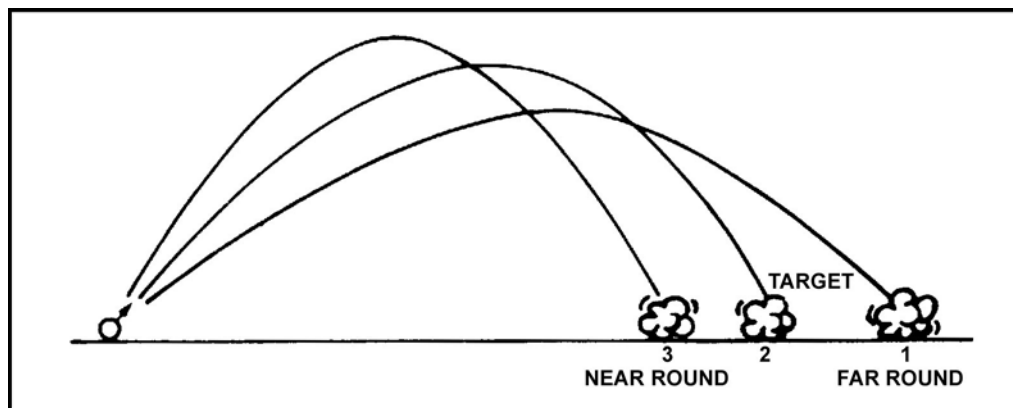

Figure 3. Determining Mil Length of Ladder
- a. The FO/squad leader must now determine the number of mils of elevation it takes to move the barrel from the elevation to fire the far round to the elevation to fire the near round (Figure 3).